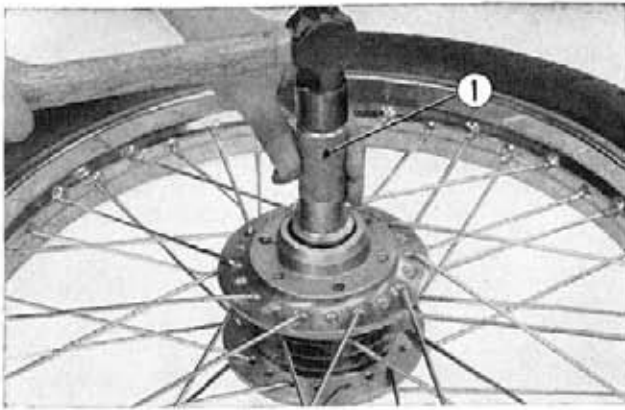

Fig. 13-9 ① Bearing driver
2. Drive the wheel bearing into the wheel using a bearing driver (Tool No. 07949~3000100). (Fig. 13-9)